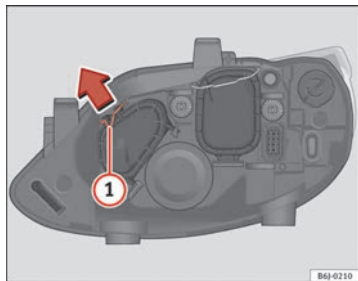

Fig. 150 Main beam headlights
- Move the loop ① in the direction of the arrow and remove the cover ⇒ fig. 150.